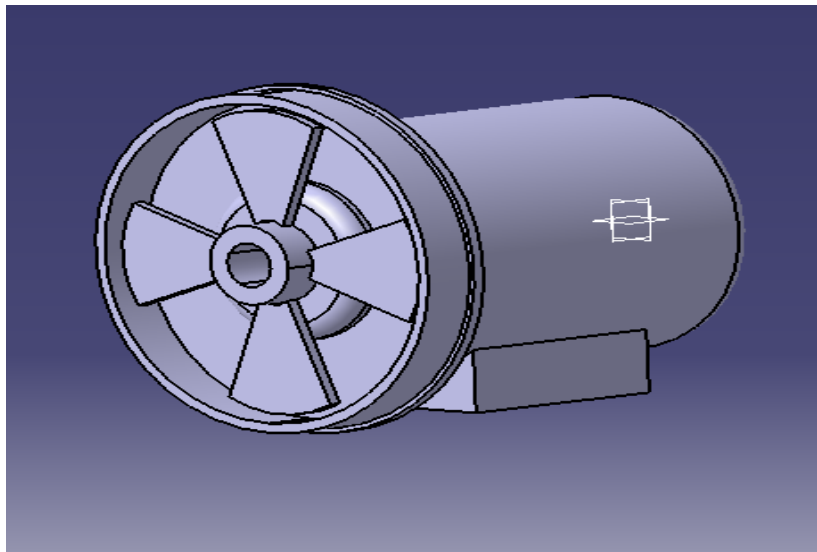

Figure 3.8: Vacuum
4. vacuum: uses to pull air from molds.(**Figure 3.8**)